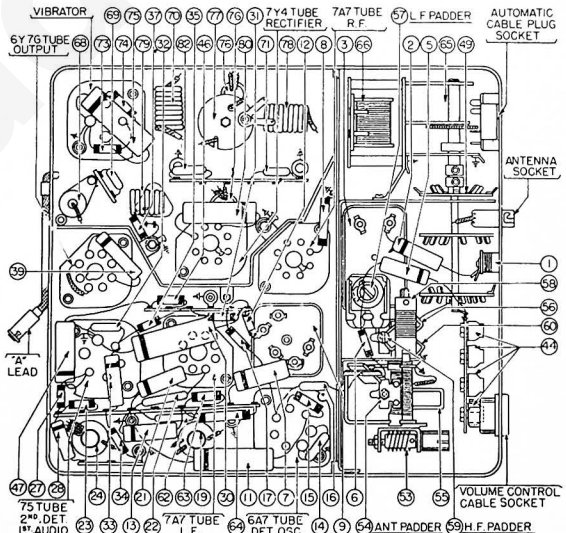

FIGURE 2
NOTE 5 — When installing the radio in the car, follow the installation instructions carefully. Tune in a weak broadcast signal between 1200 and 1400 Kilocycles on the control scale. Remove the plug button on the end of the radio and adjust the antenna compensator ① (See Figure 2) for maximum signal.